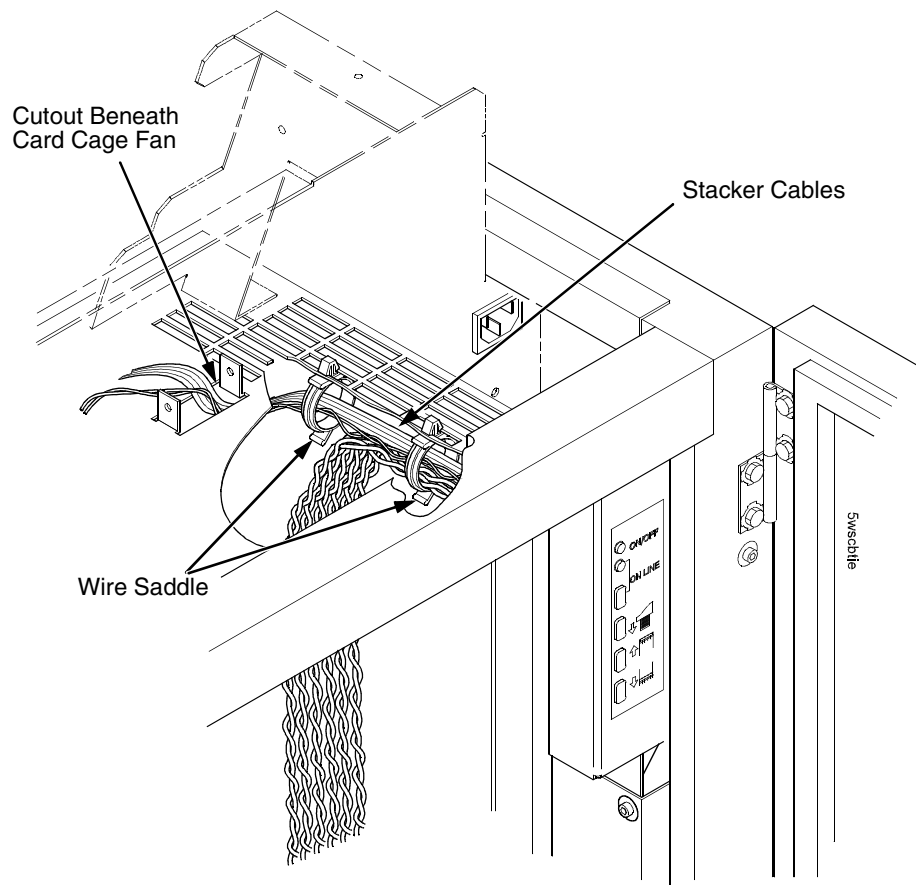

Figure 90. Securing Stacker Cables
32. Bundle the stacker control panel cables in the wire saddles located under the card cage. Tie wrap the cables so they do not catch in the stacker mechanism as it moves up and down. Route the stacker rail and frame cables so they move without snagging as the elevator assembly moves up and down. (Figure 90.)